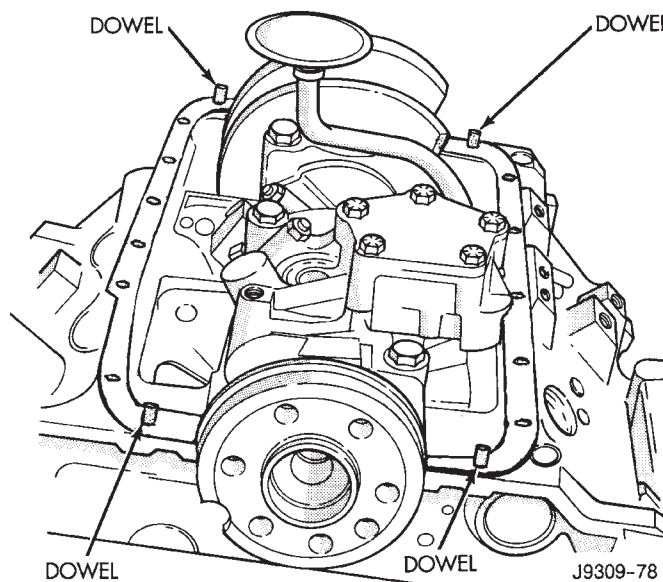

Fig. 35 Position of Dowels in Cylinder Block
- (2) Install the dowels in the cylinder block (Fig. 35).